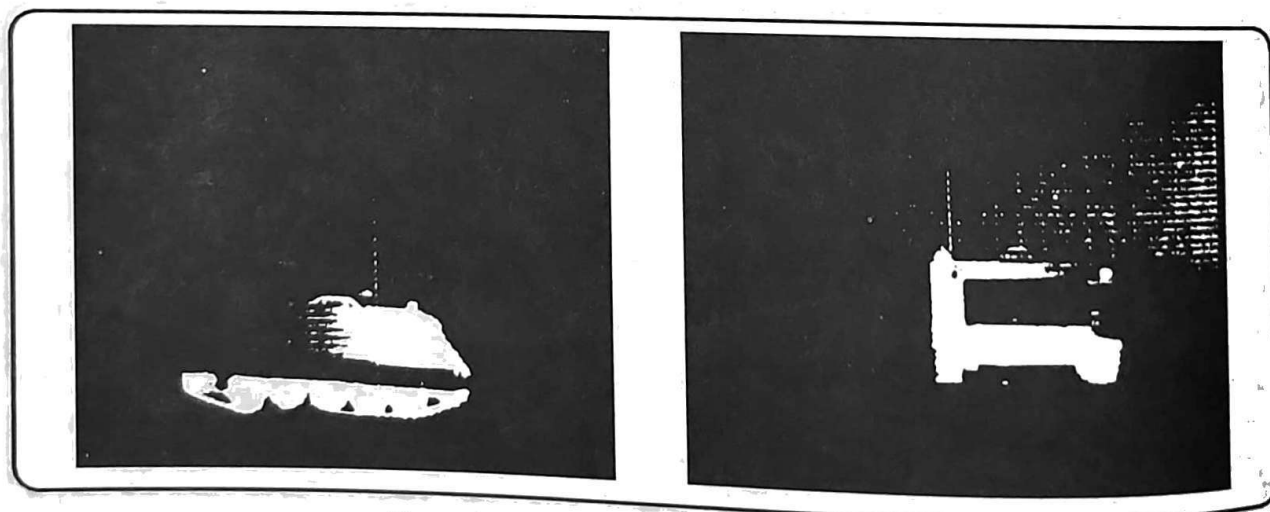

Figure A-3. M113 armored personnel carrier.
c. M113 Armored Personnel Carrier (Figure A-3).